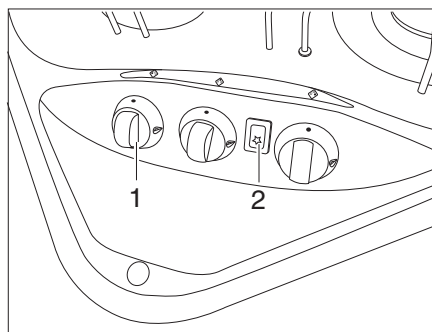
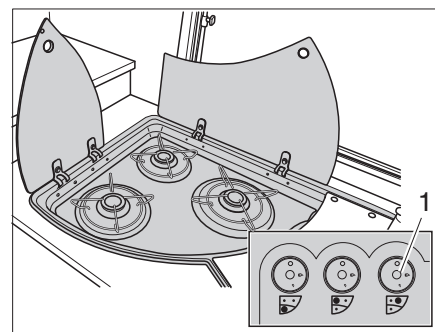

Fig. 124 Operating controls for gas cooker
Fig. 125 Alternative: Operating controls for gas cooker
- Turn the control knob (Fig. 124,1 or Fig. 125,1) on the burner you wish to use to the ignition position (large flame).
- If an ignition button (Fig. 124,2) is present: